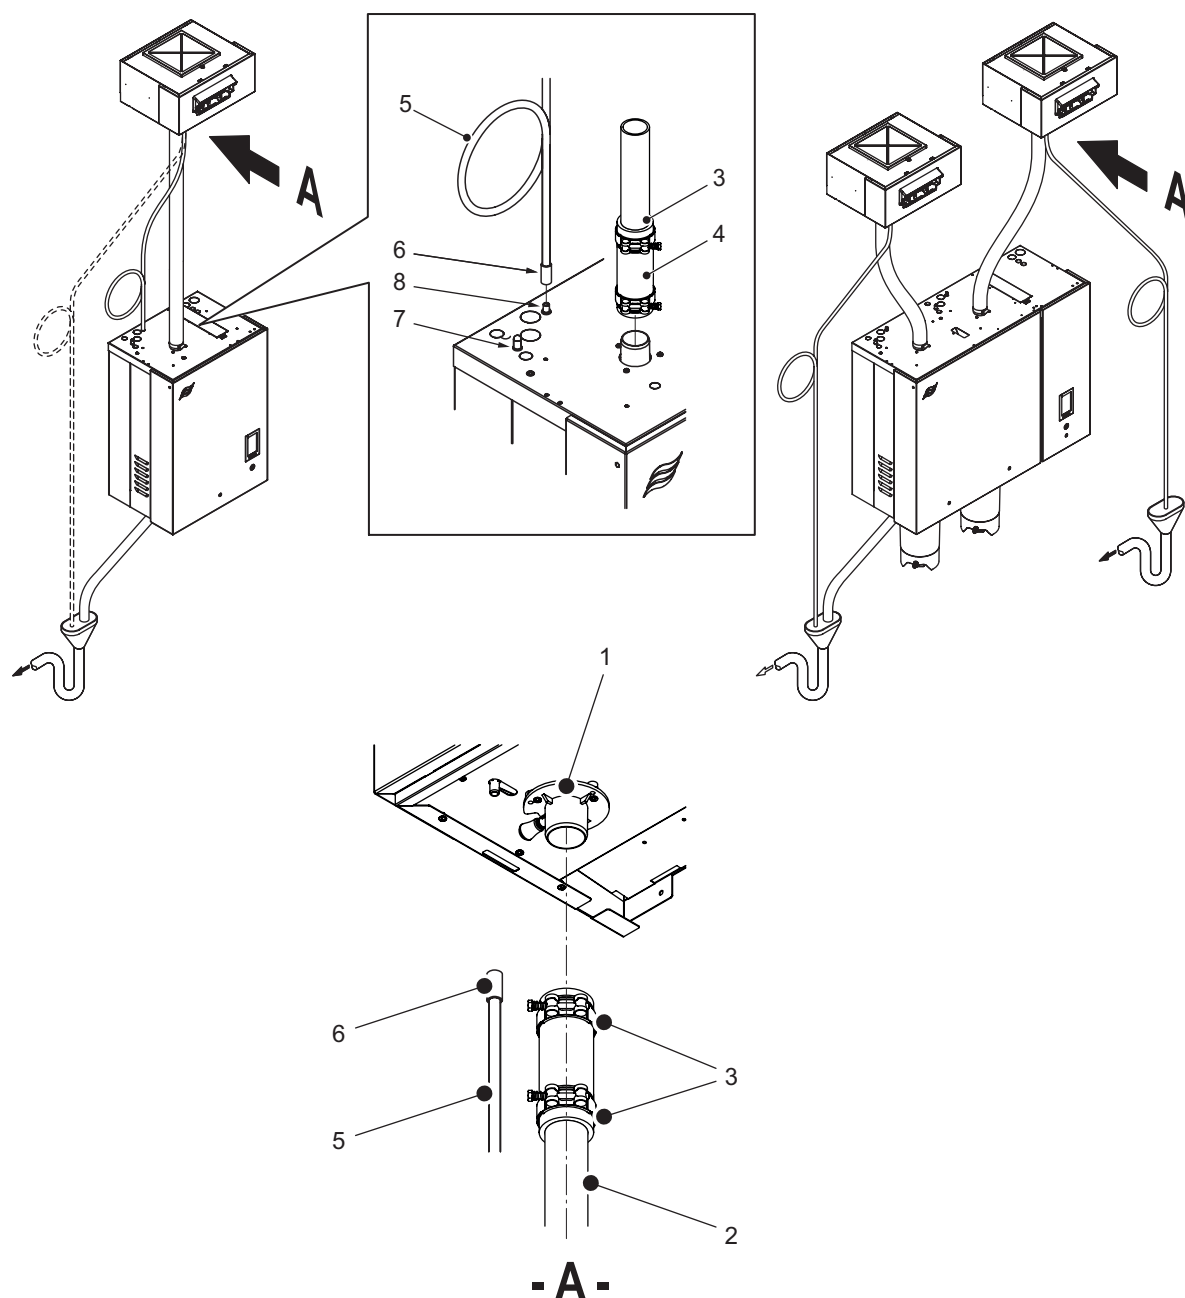

Figure 9: Steam and Condensate Line Connections on Condair blower pack
- a. Plumb the steam line (supplied by others) and connect it to the steam adaptor on the blower pack with a short length of bulk steam hose and two hose clamps (supplied). Refer to Figure 9 on page 28. If using a Condair steam hose, connect it to the steam adaptor with a hose clamp (supplied). Do not over-tighten the hose clamps – maximum torque is 16 in·lbs (180 N·cm).
- a. Connect the condensate line from the blower pack to any of the following drain connections. Refer to Figure 9 on page 28.
For a 7/8 in (22.5 mm) steam adaptor: connect the 3/8 in (9.5 mm) and 3/16 in (4.5 mm) condensate lines to a tee connector with short lengths of bulk hoses and spring clamps. Ensure that the tee connector is installed after the condensate traps, and connect the tee connector to any of the locations listed above. Refer to Figure 9 on page 28.
- a. Connect the other end of the steam line to the steam outlet on the humidifier with a short length of bulk steam hose and two hose clamps. If using a Condair steam hose, connect it to the steam outlet with a hose clamp (supplied). Refer to Figure 9 on page 28. Do not over-tighten the hose clamps – maximum torque is 16 in·lbs (180 N·cm).